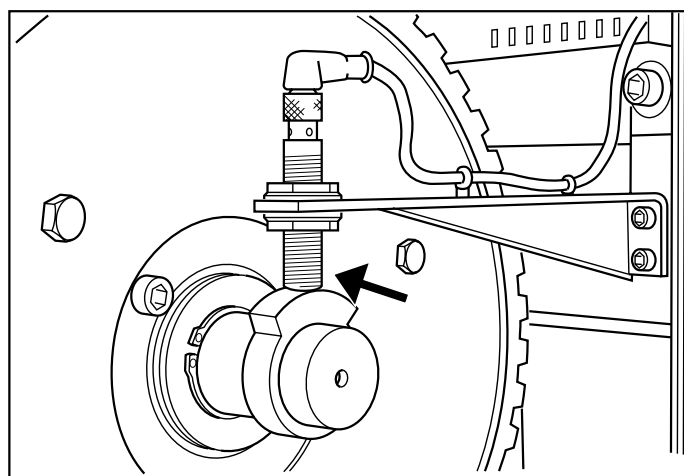

Fig. 5
- * until the cutting area is in the upper position, see figure 5.
position, see fig. 5.